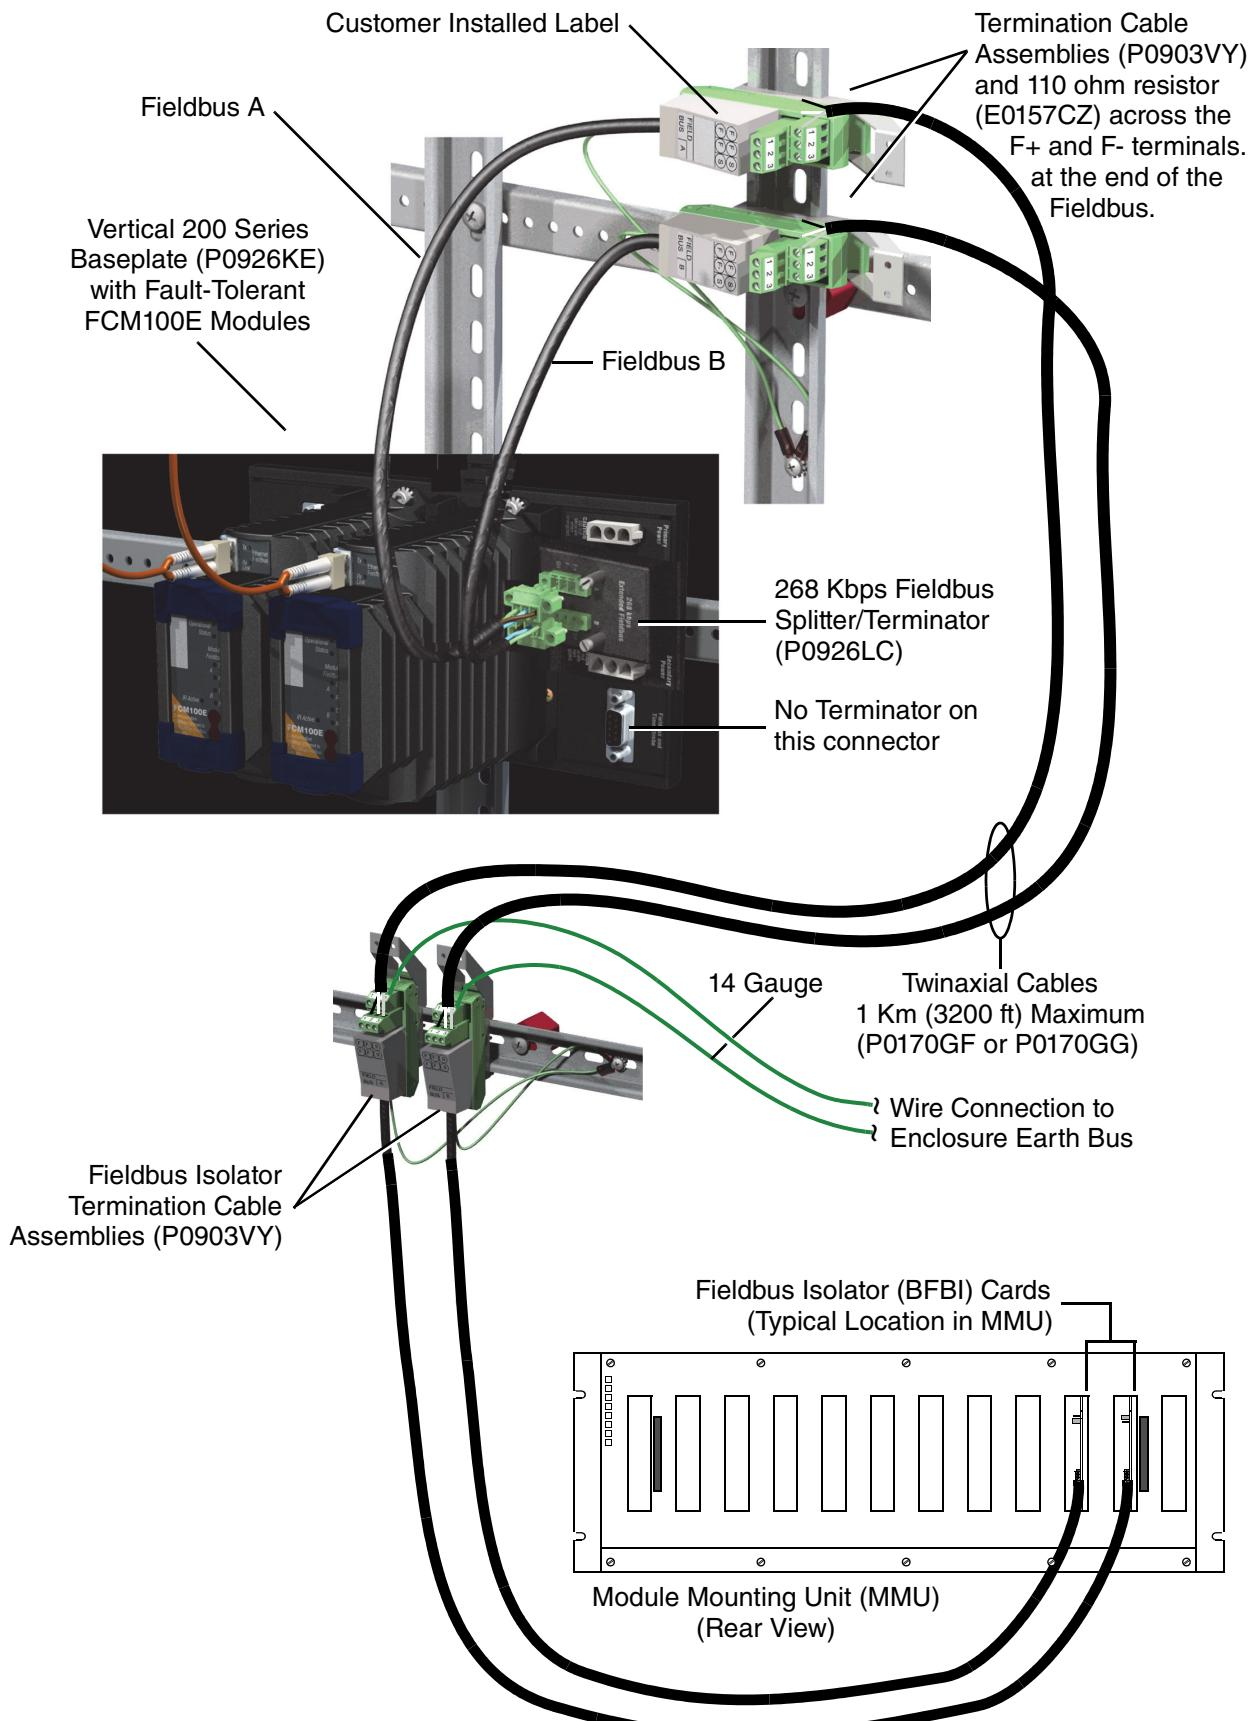
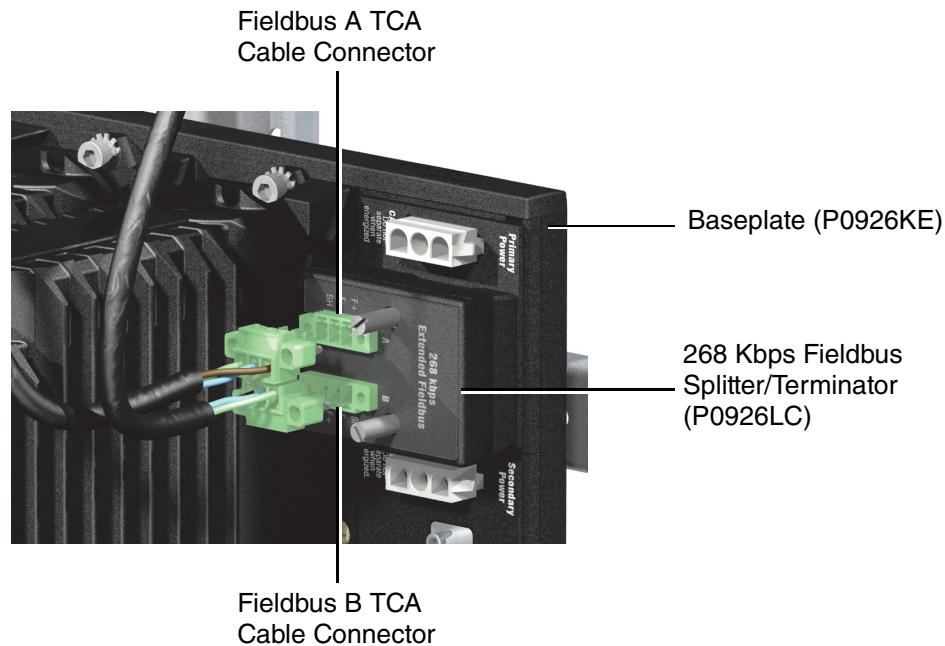
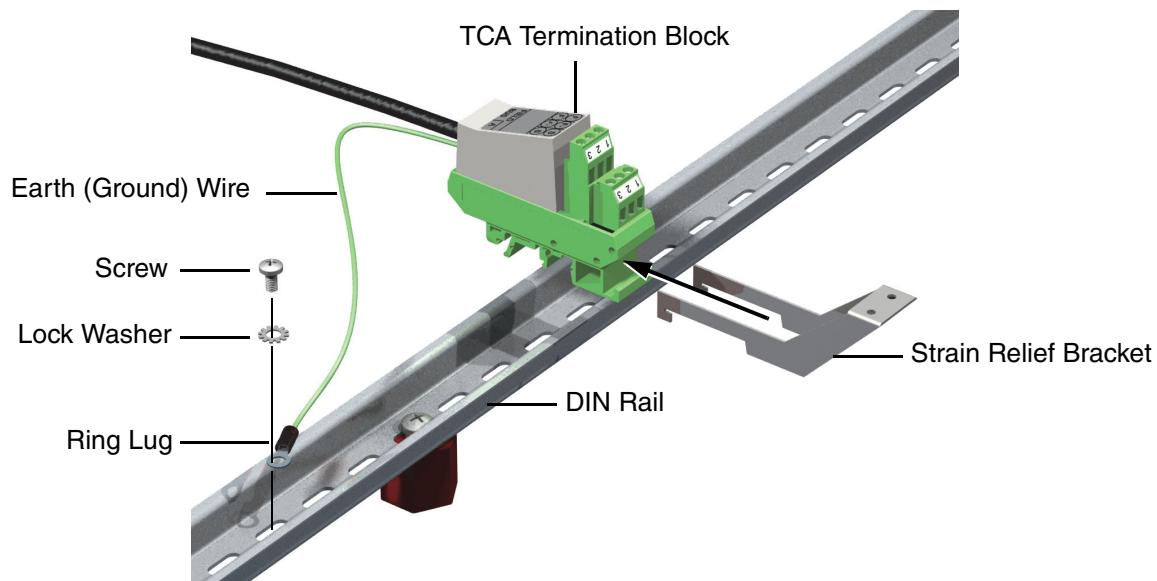

Figure 2-36. Cabling Fieldbus Isolator Cards to an FCM100E Baseplate
Figure 2-37. TCA Cable Connection to 268 Kbps Fieldbus Splitter/Terminator
Figure 2-38. TCA Termination Block Assembly Mounting
Cabling a FCM100E baseplate to the BFBI Fieldbus Isolators consists of extending the remote 268 Kbps fieldbus from the isolators (see Figure 2-36). This extension, used between enclosures, involves the use of termination cable assemblies (TCAs) to provide cable connections between primary and extended fieldbus segments, for a maximum fieldbus length of 1830 m (6000 ft). If the fieldbus is non-redundant, only one TCA is connected to the fieldbus splitter/terminator (P0926LC) which is shown in Figure 2-37. TCA part number P0903VY includes a strain relief bracket, labels for bus A and B, and a 110 ohm terminating resistor (E0157CZ) which should be installed across the F+ and F- terminals at the end of the Fieldbus. You must install one of the labels on the TCA (see Figure 2-36 for label orientation)
Remote fieldbus extension cable connections are implemented as shown in Figure 2-36 and Figure 2-41.
1. Referring to Figure 2-37, assemble the termination blocks associated with the termination cable assemblies (P0903VY) for the FCM100E Modular Baseplate, snap them onto the mounting rails (DIN rails) in the enclosure, and connect the ground wires. (For future reference, Figure 2-38 illustrates how to remove the TCA termination blocks.)
3. Make the cable connection(s) to the fieldbus splitter/terminator as shown in Figure 2-37.